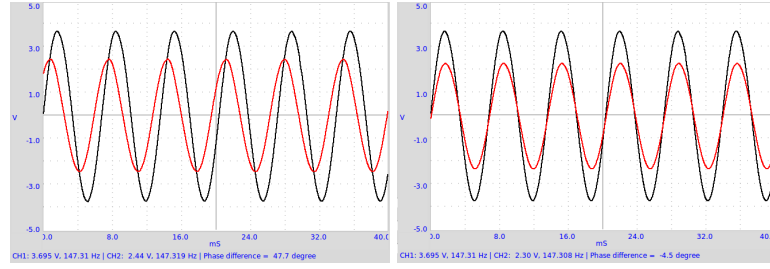

Figure 2.4: Phase shift of AC in an (a) RC circuit (b) RL circuit
**Observation** The voltage waveform before and after the capacitor are shown in figure 2.4(a), and the calculations are shown in the table.
**Observation** The measured phase shifts are shown below. Waveforms for the 125 mH inductor is shown in figure 2.4(b). The resistance of the inductor also should be included while calculating the phase shift.2.